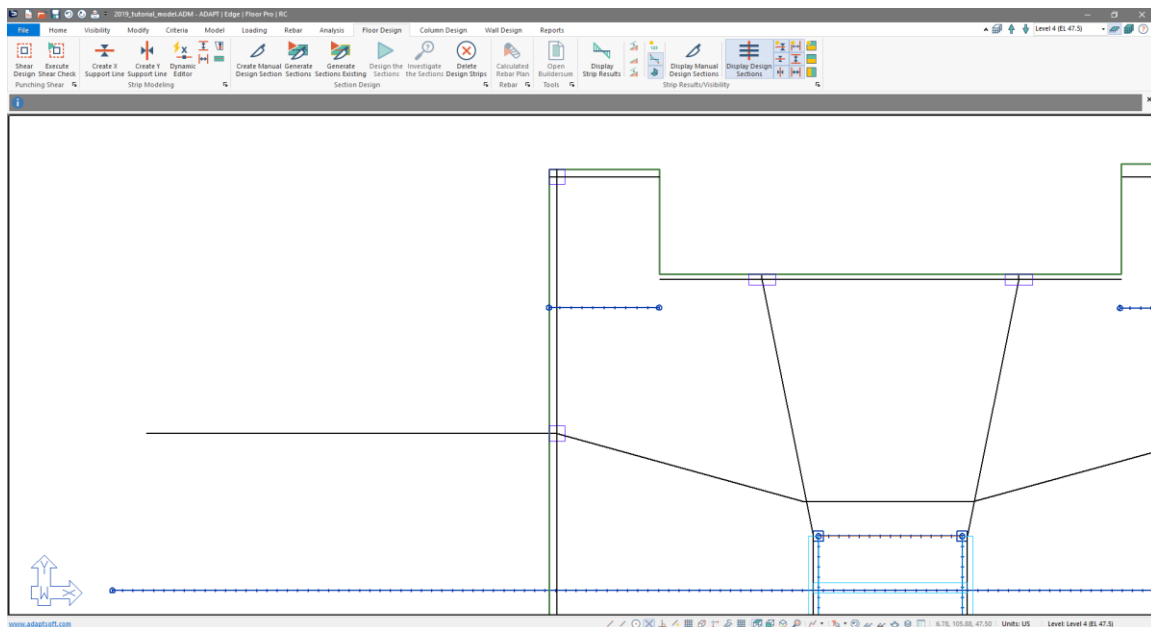

Figure 10-5
- Go to *Model* → *Visibility* and click on the *Gridline*  icon to turn off the gridlines in view. The user should now see the Level 4 geometry with support lines and splitters copied to it as shown in **FIGURE 10-5**.